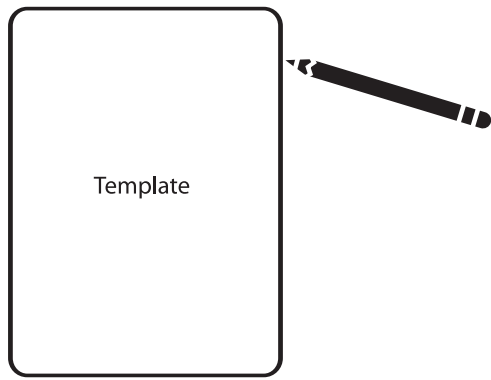

Figure 1
3. With these measurement requirements in mind, place the template against the inside edge of one of the studs. (Do not "center" the template if your studs are wider than 141/2"–151/2".) Use a level to make certain the template is straight and plumb. The outside edge of the template will be your exact cutout size. [Figure 1]